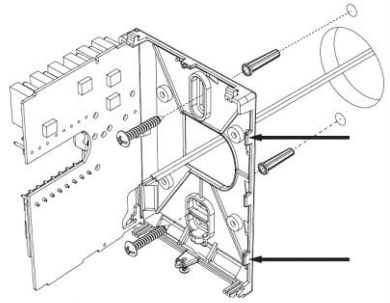

Fig. 2
1. Swing open Room Controller PCB to left by pressing PCB locking tabs (fig. 2).
6. Insert screws in mounting holes on each side of base (fig. 2).